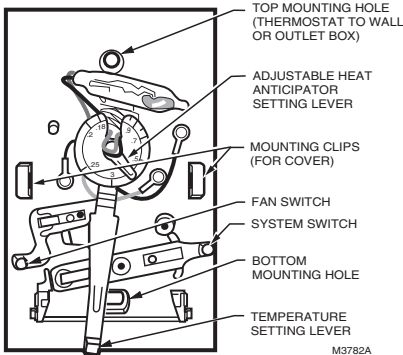

Fig. 2. Locating heat anticipator adjustment mechanism.
- ❑ Before removing the old thermostat from the wall, look at it carefully to locate the heat anticipator adjustment mechanism, see Fig. 2. Make a note here _____ of the anticipator setting for future reference. The heat anticipator pointer, if adjustable, is set at one of a series of numbers representing the (electrical) current rating of the primary control of your system (in amperes). The numbers range from 0.18 to 1.0. If no heat anticipator/indication is showing, do not be concerned; move on to the next step.
- ❑ Fasten thermostat to wall or vertical outlet box with a screw through the top mounting hole. See Fig. 2 for hole location.
- ❑ Press thermostat cover firmly onto the mounting clips. See Fig. 2.